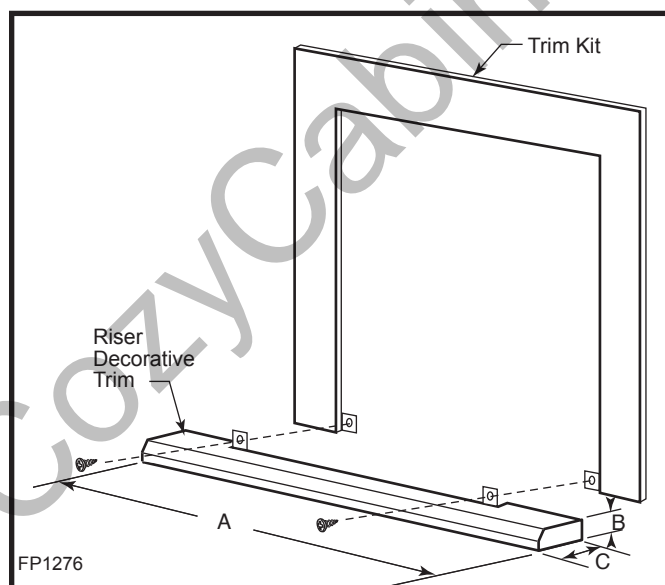

Fig. 57 RHEBSL, RHEBXL trim kit.
3. Remove the two (2) screws at the bottom of the trim.
4. Install the riser at the bottom of the trim. (Fig. 57)
5. Fasten the trim with the same two (2) screws removed in Step 3.